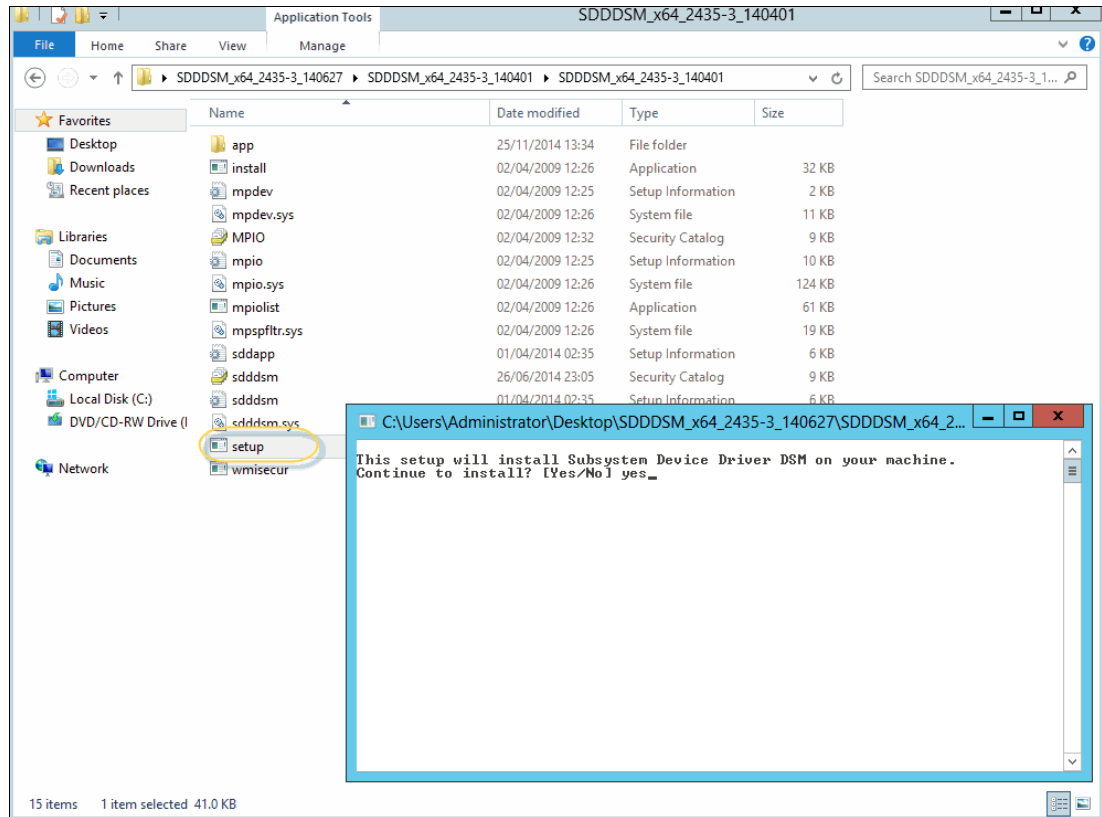

Figure 6-27 Installing IBM SDDDSM: Windows 2012
- Unpack the file to your host server and run the **setup** file, as shown in Figure 6-27. When prompted, type yes to install the device driver.